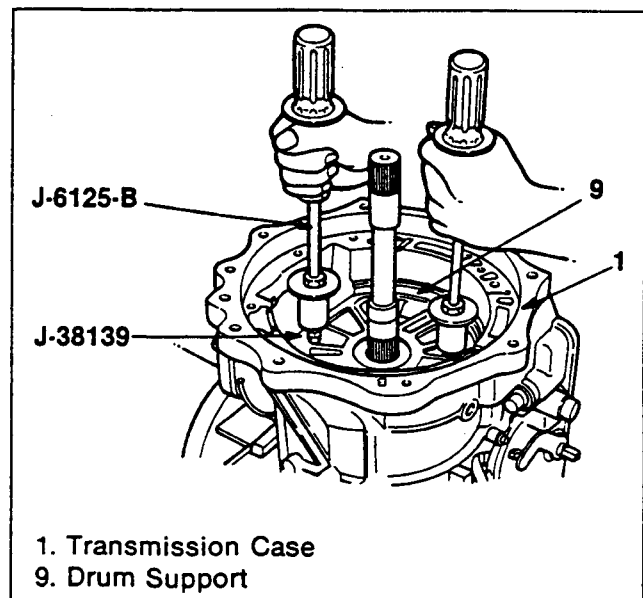

Figure 20. Drum Support Removal
3. Remove the drum support from the case using a sliding hammer and adapter (special tool) (figure 20).